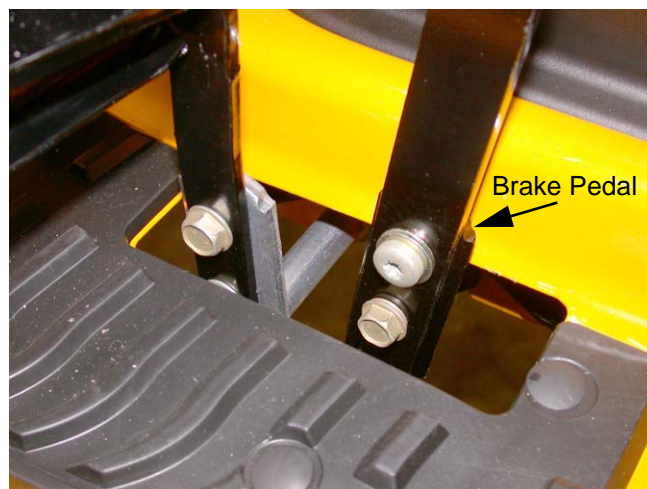

Figure 20.1
- 20.1. Confirm that the brake pedal is firmly attached to the pedal shaft. See Figure 20.1.